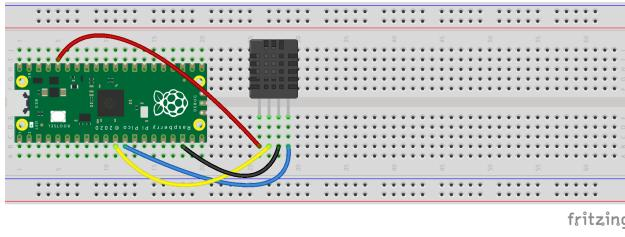

Figure 3: This is how the pin holes on the pico could be connected to the DHT20 pins. The illustration uses a breadboard.
2. Then cut several solid wire from the wire spool box (I recommended following the color code scheme shown in 3). Make sure they are long enough to connect from the appropriate pin hole on the pico to the pin on the DHT20, as shown in figure 3. You will need to strip the ends of the wires. Now align the wires through to proper pin holes of the pico and to the correct pins on the sensor. You will have to cut off the excess of wire so that the wire does not hang loose. You will then strip that end once excess is cut, as shown in ???. Make sure excess wire through pin hole is also cut.